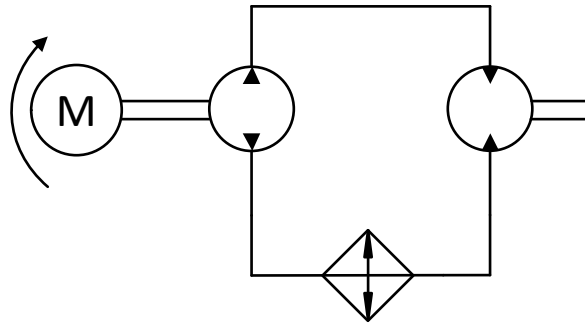

FIG 12.
A. Fig 12 shows a simple closed loop circuit.